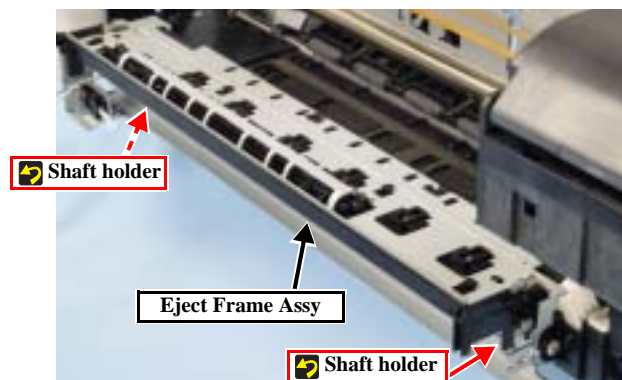

Figure 4-76. Removing the Eject Frame Assy
6. Remove the Eject Frame Assy from the printer body. (Fig. 4-76)
- Fit the shaft holders (left and right) on the underside of the Eject Frame onto the Paper Eject Roller Shaft. (Fig. 4-76)